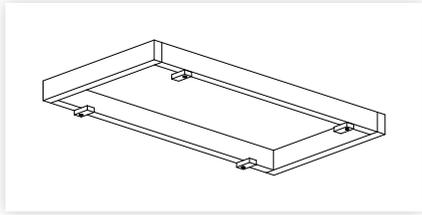

figure 12
1. Screw four temporary cleats approx 80mm x 40mm into your timber frame (figure 12). Ensure cleats can be rotated.